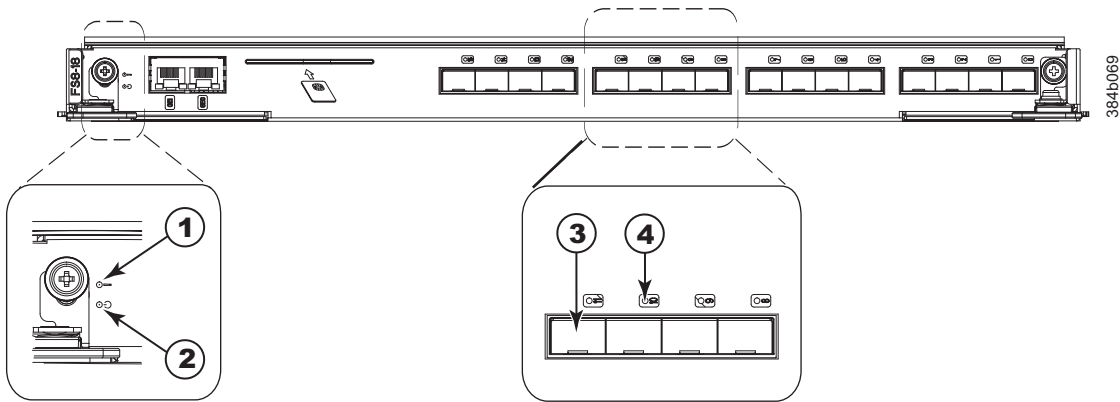

Figure 25. FS8-18 encryption blade
- Figure 25 on page 60 illustrates the FS8-18 encryption blade